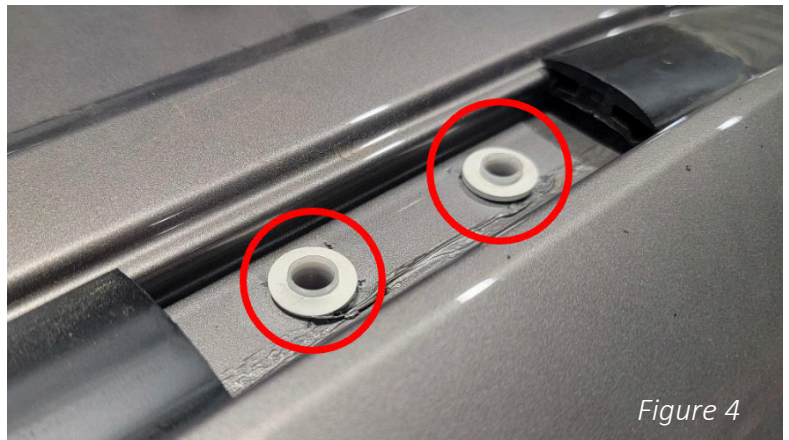

Figure 4
4. Place 12x of the provided rubber sealing washers over the OE rack mounting hole locations. Figure 4.